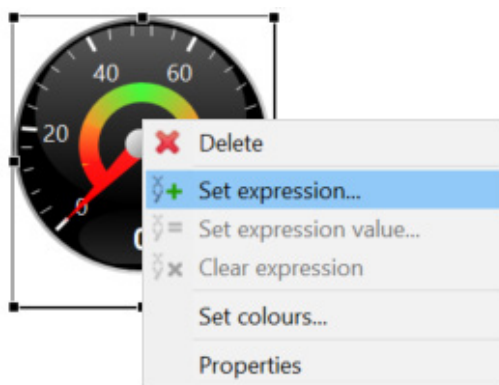
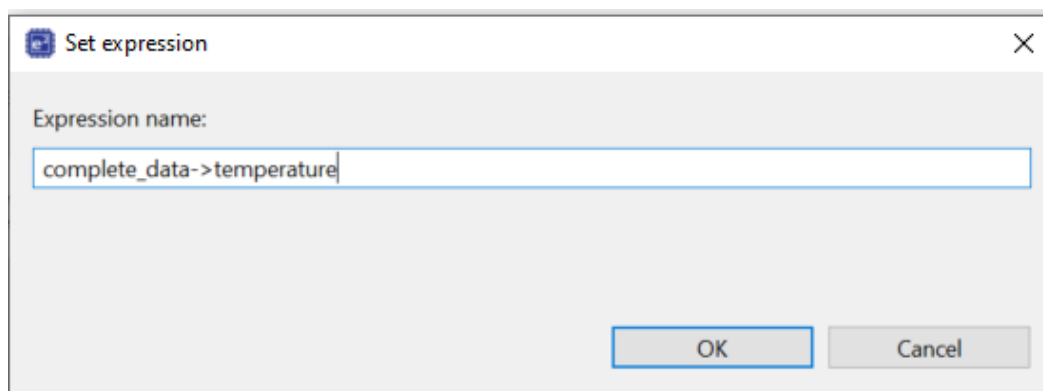

Figure 22. Set Gauge Expression
Figure 23. Set Expression Name
7. Right-click on the GAUGE and select **Set expression** (see Figure 22). This opens the **Set expression/Expression name** window (see Figure 23).